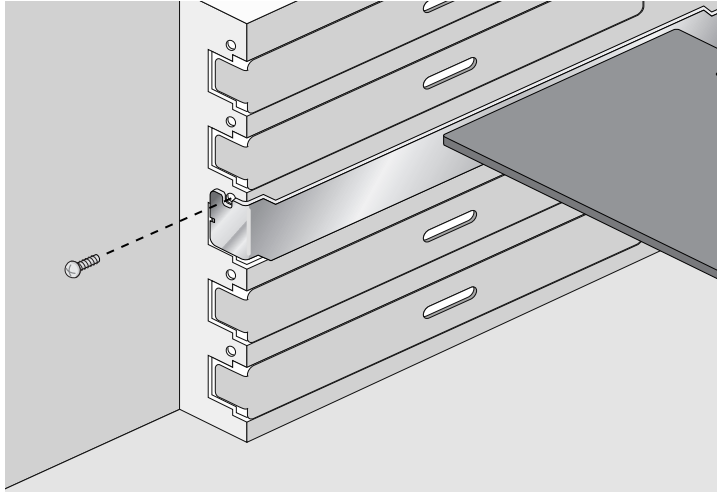

Figure 5. Securing the Adapter Card
6. Secure the network adapter card to the chassis with a Phillips-head screw (not provided) as shown in Figure 5.